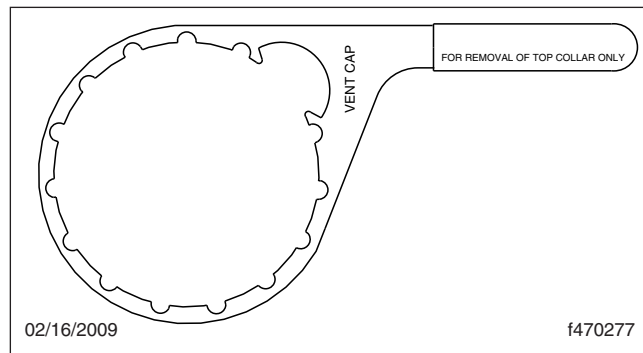

Fig. 3, DAVCO Collar Wrench
5. Using a DAVCO Collar Wrench (**Fig. 3**), remove the clear cover and collar.
4. Using a DAVCO Collar Wrench (Fig. 3), remove the clear cover and collar.